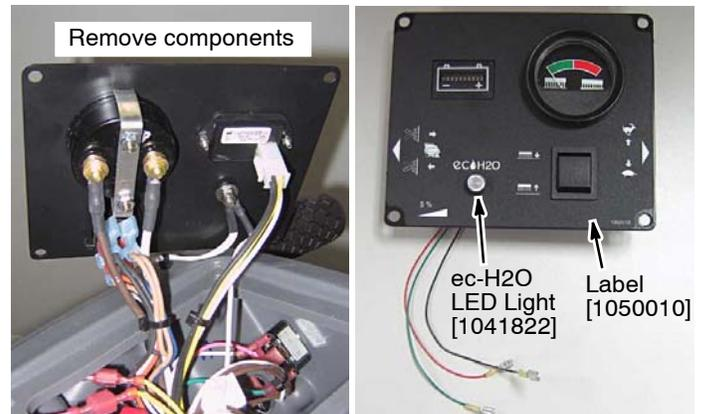

Fig. 23
- Remove the components and the label from the upper control panel (Figure 23). *Take note of wire connections before removing components.* Install new label on panel and replace components. Install the ec-H2O LED light in panel (Figure 23).